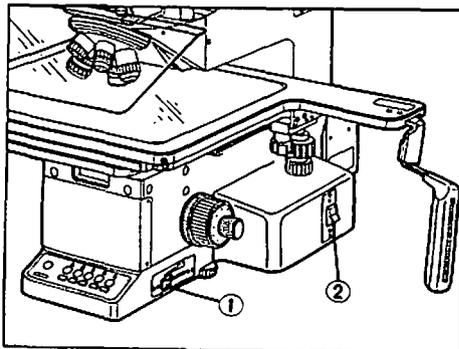

Fig. 44
3 Light Intensity Adjustment (Figs. 44, 45)
Switching from Vertical Illuminator to Transmitted Light Illuminator (Figs. 44, 45)
Press the illuminator selector switch ② (Fig. 44) to switch between the vertical illuminator and the transmitted light illuminator.